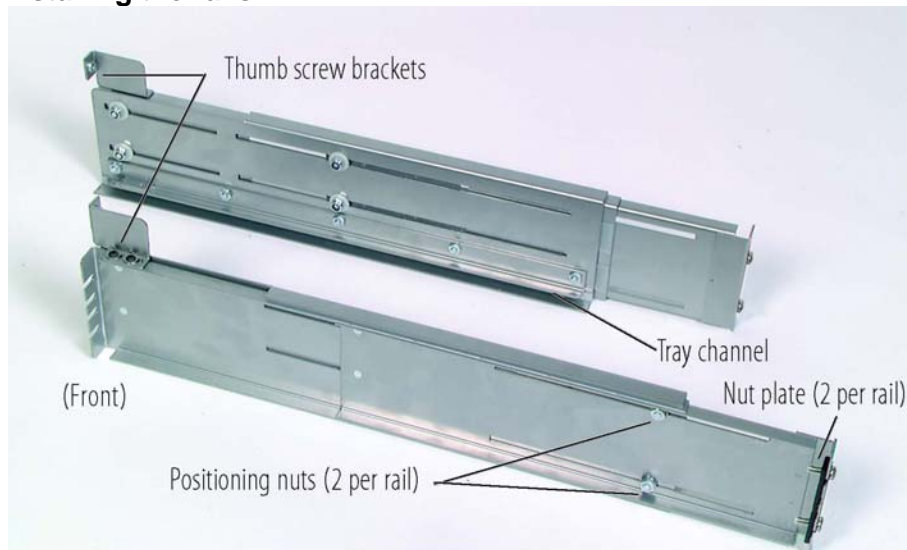

Figure 9-1. Rack mount rails
1. Place the four nut plates (see Figure 9-1) in the desired position on the rack. Install each nut plate behind the rack bracket. Loosely insert the nut plate screws.
3. Tighten the two positioning nuts (shown in Figure 9-1) on each rail.
1. If necessary, adjust the thumbscrew brackets- Figure 9-1 so that the thumbscrews can be tightened into them.